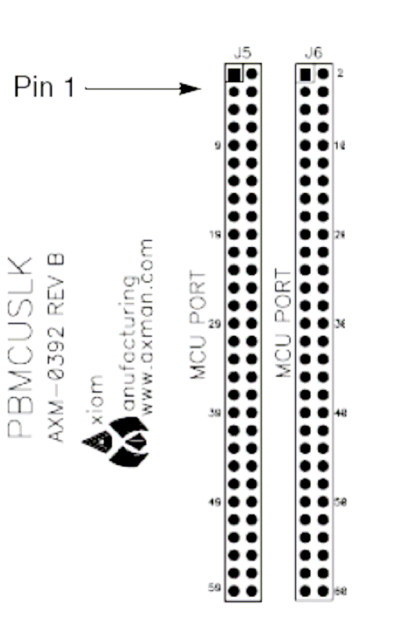

Figure 3. Installation of Application Module
- Install the application module in the MCU PORT connector (J5) on the project board. Align pin 1 on the application module with pin 1 of the MCU PORT connector on the project board as marked by Figure 3.